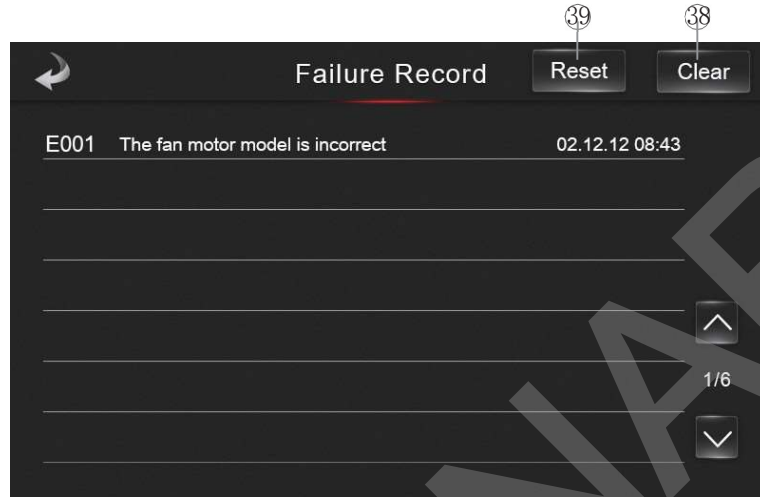

Fig.12 Failure Record interface
- Navigate to the Setting interface (refer to Fig. 9) and press the Failure button to access the Failure Record interface for querying the current failure records (refer to Fig. 12).
- (1) The failure record has the power failure memory function, but if the record is manually cleared, the record will not appear again.
- (2) In the Failure Record interface (Fig.12), press “38” to enter delete all the history failure records interface (Fig.13) Ordinary solution see 5.3. In the Failure Record interface (Fig.12), press to enter recovery the failure three times to lock interface(Fig.13-2).